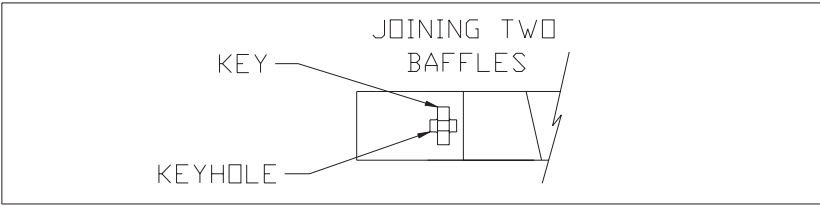

Figure 2.4.2
3. STOP: Before final assembly of the last radiant tube verify baffle length, install baffle in the vertical position and complete final assembly. Figure 2.4.2. The Baffle Specification Chart on next page lists baffle lengths by model numbers. Heater model numbers are located on the rating label attached to the heater control box.